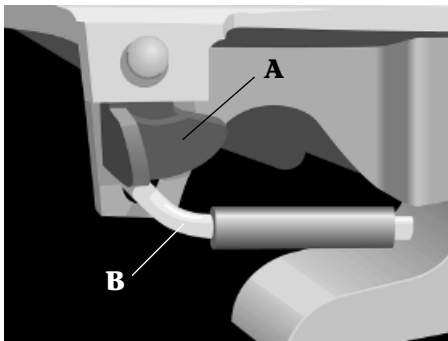

Figure 9
LOCKED POSITION (Figure 9) - Pivoting jaw and spring actuated lock encircle the kingpin (not shown).
In the locked position, the safety indicator (A) swings freely over the operating rod (B) (Figure 9).